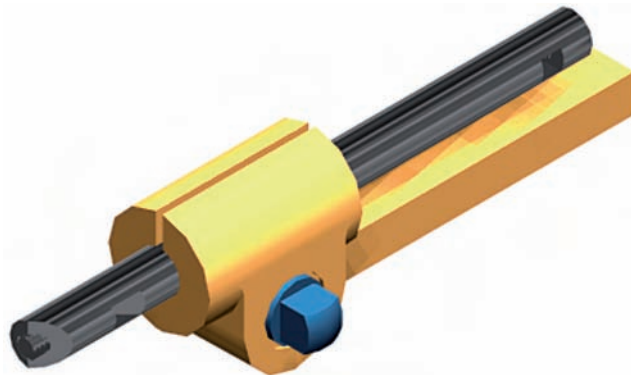
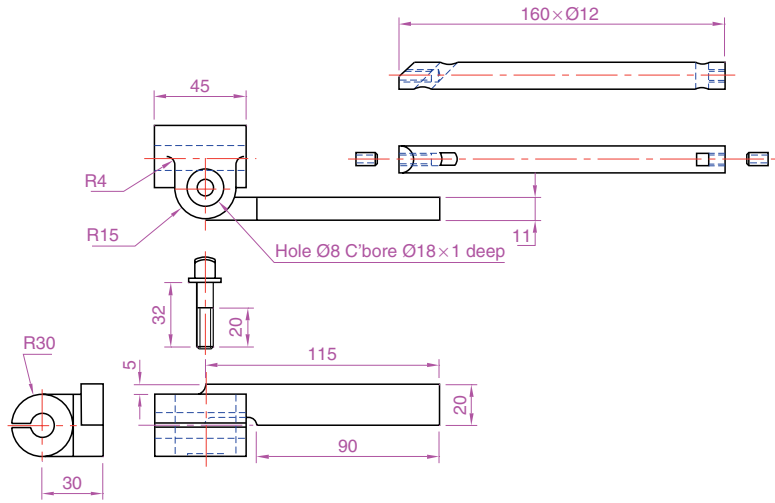

Fig. 16.31 Exercise 1 – a rendering
Fig. 16.32 Exercise 1 – parts drawing
1. A rendering of an assembled lathe tool holder is shown in Fig. 16.31. The rendering includes different materials for each part of the assembly. Working to the dimensions given in the parts orthographic drawing (Fig. 16.32), construct a 3D model drawing of the assembled lathe tool holder on several layers of different colours, add lighting and materials and render the model in an isometric view.